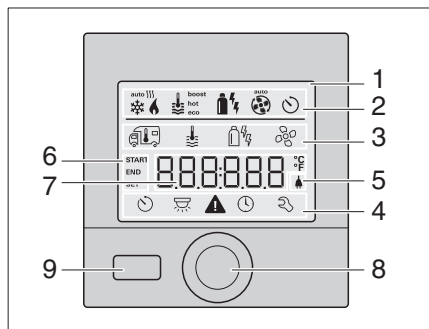

Fig. 141 Panel Truma CP plus
► Tap the rotary/push button (Fig. 141,8).
► Press the rotary/push button (Fig. 141,8) for longer than 4 seconds.
- Use the rotary/push button (Fig. 141,8) to select the room temperature symbol and tap to change to the setting level.
- Confirm the selection by pushing the rotary/push button (Fig. 141,8).
- Use the rotary/push button (Fig. 141,8) to select the desired room temperature.
- Tap the rotary/push button (Fig. 141,8) to confirm the value.
- Use the rotary/push button (Fig. 141,8) to select the hot water level symbol and tap to change to the setting level.
- Use the rotary/push button (Fig. 141,8) to select the desired level.
- Use the rotary/push button (Fig. 141,8) to select the energy symbol and tap to change to the setting level.
- Use the rotary/push button (Fig. 141,8) to select the desired type of energy.